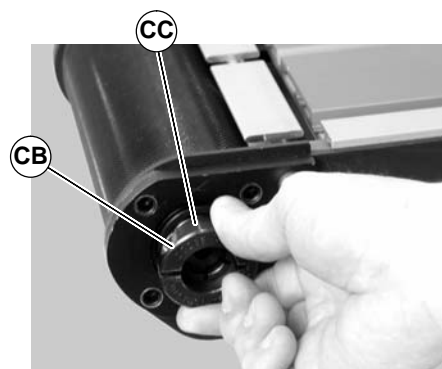
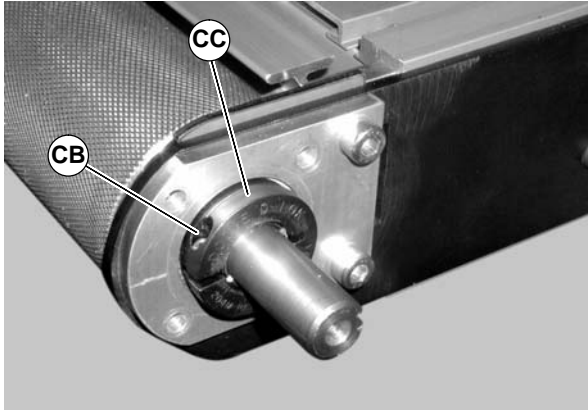

Figure 59
Figure 60
4. Loosen the bearing collar set screw (CB of Figure 59) and remove bearing collar (CC). Repeat on drive shaft side of pulley (CB and CC of Figure 60).